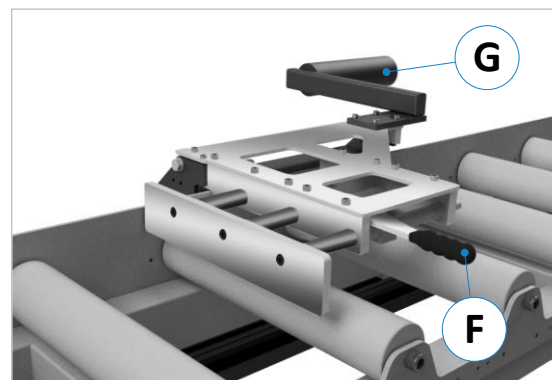

Figure 18: Balance weight and lever for clearance stroke
- Before starting the machining process (e.g. cutting), create the 10 mm clearance stroke by swivelling the eccentric lever (F), see ⇒ Figure 18.
- With the eccentric lever (F) the stop can also be folded up at any length position. In the upper position, the stop keeps itself in this position by means of the balance weight (G).